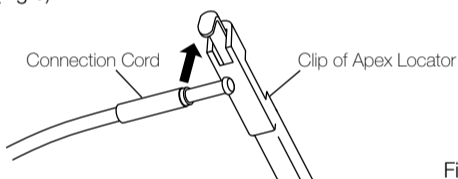

Fig. 3
- ④ Connect the Contra Angle Head Connection Cord with the Clip of Apex locator. (Fig.3)